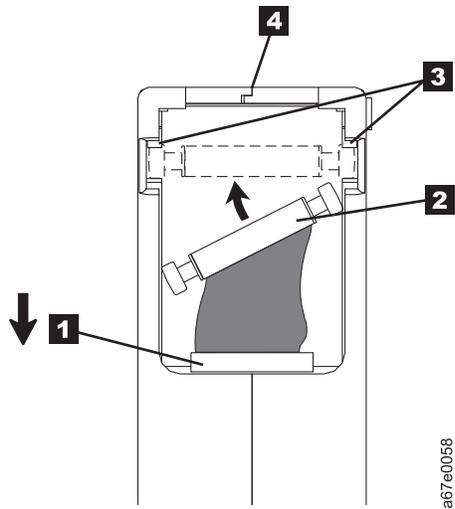

Figure 51. Placing the dislodged leader pin into the correct position. The cartridge door is open to show the leader pin.
1. Slide open the cartridge door (**1** in Figure 51 on page 253) and locate the leader pin **2**. You may need to shake the cartridge gently to roll the pin toward the door.